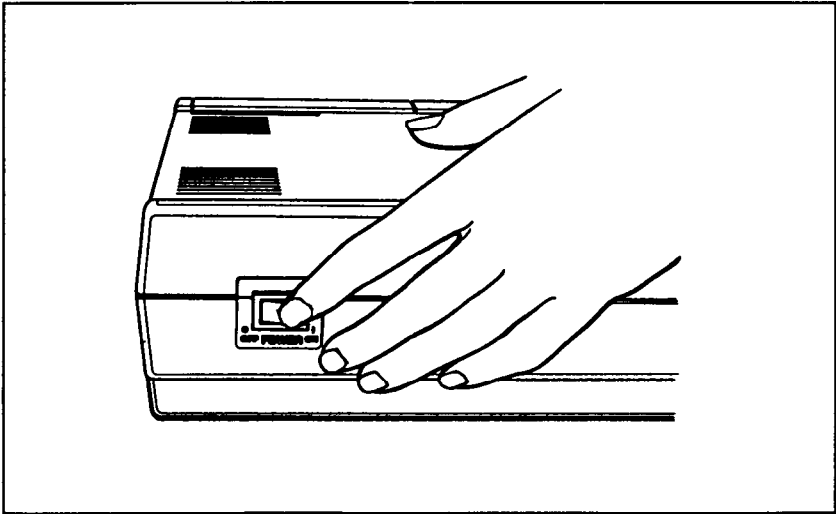

Figure 2-8. Turning the power on
1. Turn the power ON with the switch on the left side of the printer, as shown in Figure 2-8.